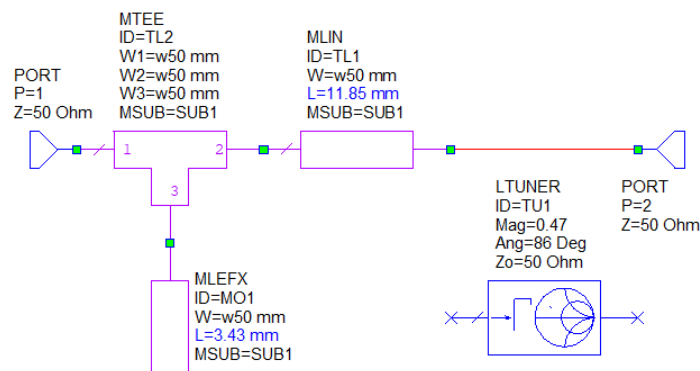

Fig. 6 Schematic of the IMC.
- The IMC, after correction, can be seen in Fig. 6.